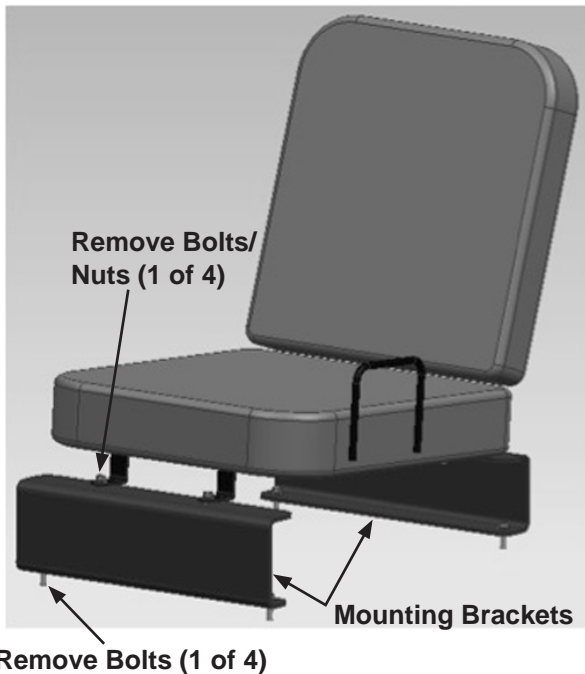

Figure 18-1
1. Remove the 4 bolts and nuts securing the seat to the mounting brackets and discard (set the washers aside for reinstallation). Remove the 4 bolts securing the seat mounting brackets to the cab floor and discard the bolts and the brackets (see Figure 18-1).